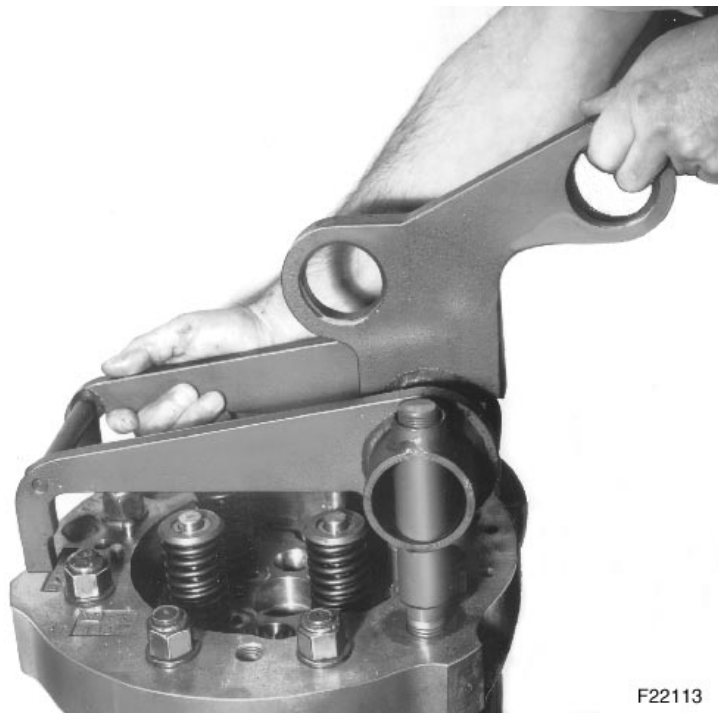

Figure 5-27. Lifting Clamp Application
9. Install the lifting clamp, Figure 5-27., on page 5-32, and secure it with the rocker arm shaft nuts.